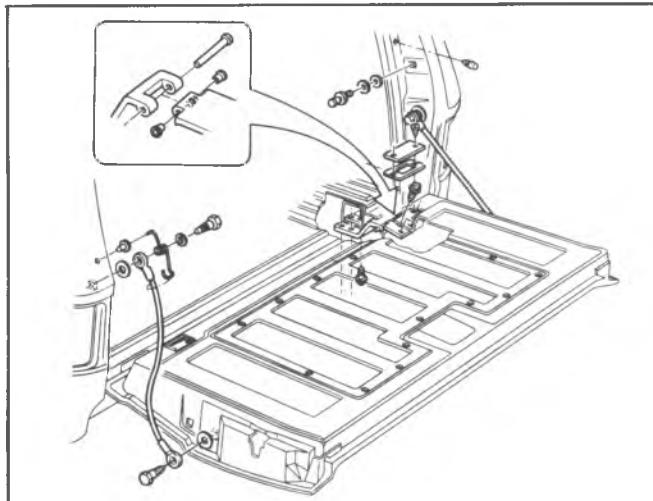

Fig. 50—Endgate, Hinges and Supports—(06 Only)
1. Lower endgate, and remove hinge access covers. See figure 50.